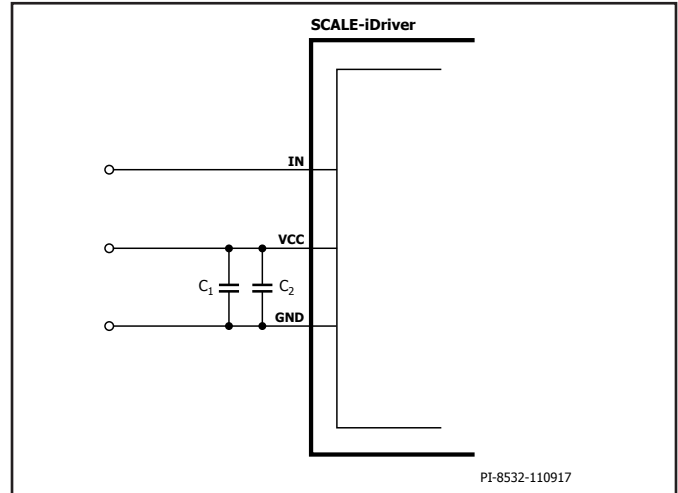
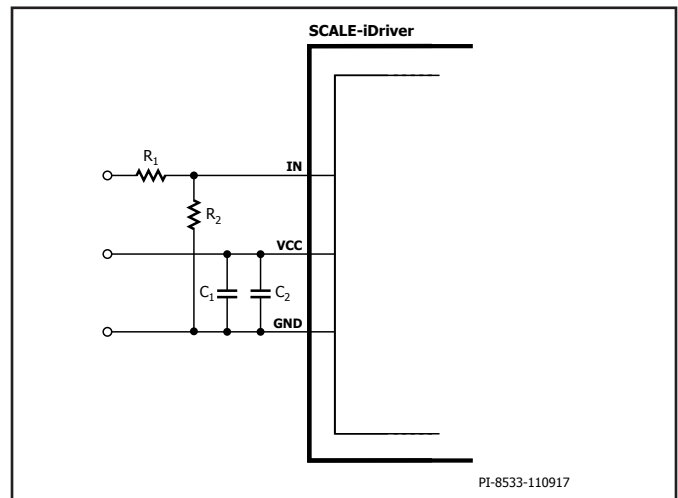
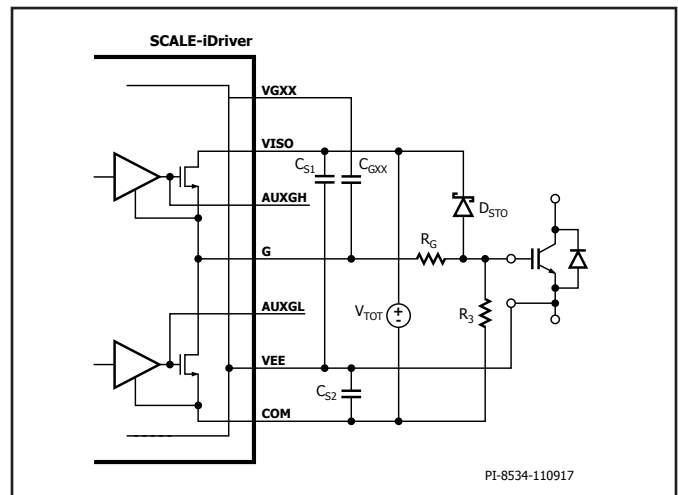
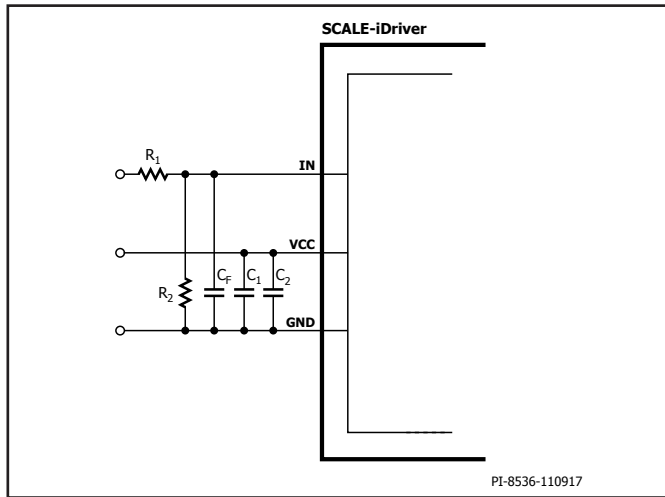

Figure 5. Recommended Circuitry for Standard 5 V IN Logic Level.
Figure 6. Recommended Circuitry for Increased IN Logic Levels. For $R_1 = 3.3 \text{ k}\Omega$ and $R_2 = 1 \text{ k}\Omega$ the IN Logic Level is 15 V.
Figure 7. SID1102K without External Booster Stage.
Figure 8. Optional Input Signal Filtering.
The input (IN) logic is designed to work directly with micro-controllers using 5 V CMOS logic. If the physical distance between the controller and the SCALE-iDriver is large or if a different logic level is required, the resistive divider in Figure 6 is recommended. This solution adjusts the logic level as necessary and will also improve the driver’s noise immunity.
The gate of the power semiconductor switch should be connected to the SCALE-iDriver output via pin G, using suitable gate resistor R_G as shown in Figure 7.
It is recommended during power-up and power-down that the IN pin stays at logic low. Any supply voltage related to VCC, VISO, VEE and VGXX pins should be stabilized using ceramic capacitors C_{1r} , C_{2r} , C_{S1r} , C_{S2r} and C_{GXX} respectively as shown in Figure 5 and Figure 7. After supply voltages reach their nominal values, the driver will begin to function after a time delay t_{START} .
Figure 5 and Figure 7 show the primary-side and secondary-side schematic and typical components used for SID1102K design without a booster stage, in which the primary-side supply voltage (V_{VCC}) will be connected between VCC and GND pins and supported through supply bypass ceramic capacitors C_1 (4.7 μ F typically) and C_2 (470 nF typically). If the command signal voltage level is higher than the rated IN pin voltage, a resistive voltage divider should be used (Figure 6). Additional capacitor C_F can be used to provide input signal filtering as shown in Figure 8. The filter time τ can be calculated according to equation (1):
To avoid parasitic power-switch-conduction during system power-on the gate is connected to COM through 22 k Ω resistor R_3 as shown in Figure 7.
The primary-side can be setup identical as described in the previous section referring to Figure 5 or Figure 6 or Figure 8.